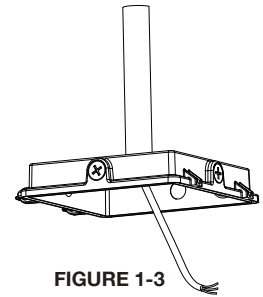

FIGURE 1-3
3. Fix the driver box cover on the 3/4 tube (Figure 1-3)